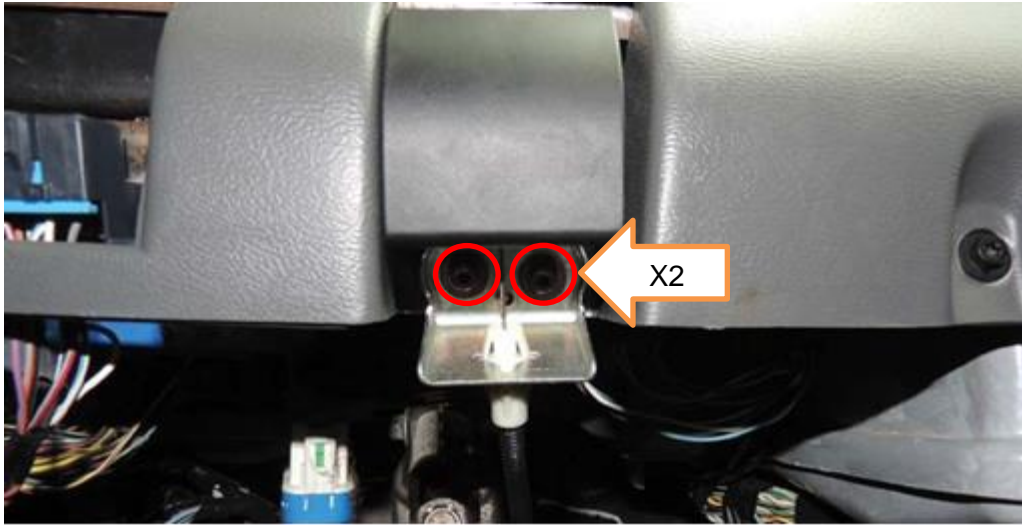

FIGURE 3
1. Remove the two hood release handle retainers and position the handle and cable aside. See Figure 3